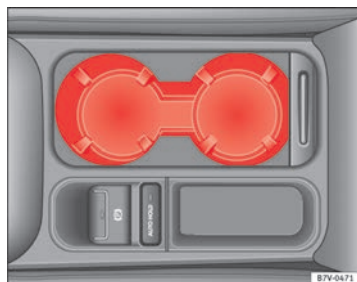

Fig. 116 Front centre console: cup holder.
- To *open*, move the cover backwards ⇒ fig. 116.